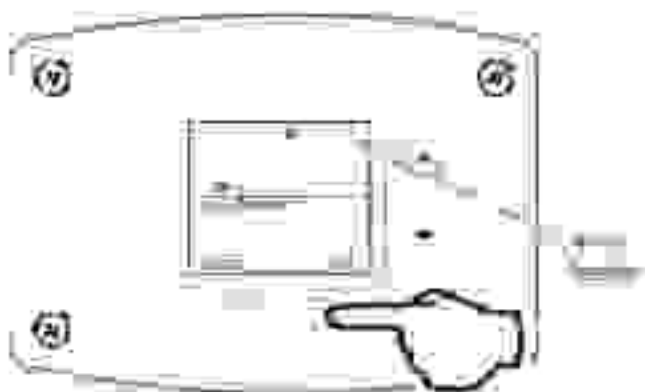

Fig. 28
2. Press 'SET' button to change temperature format. Symbol °F/ °C will flash (Fig. 28).